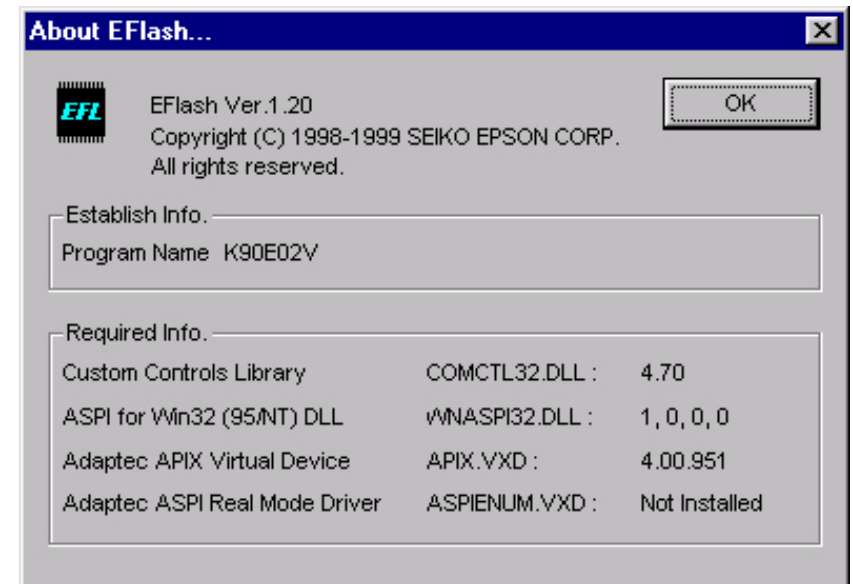
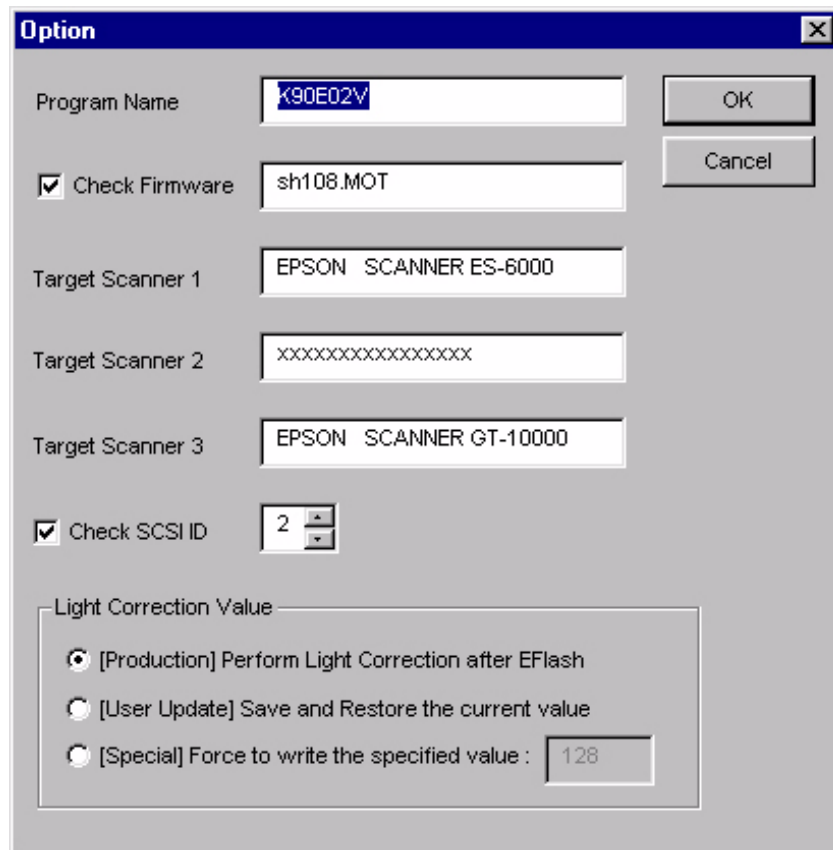

Figure 5-4. Firmware Update Requirements and Environment
Figure 5-5. Option Window
4. Click "About" button to display information on the program and the required environment as shown in Figure 5-4.
5. Double-click anywhere in the above screen other than "OK" button to display "Option" screen (shown in Figure 5-5 on the following page), and select light correction value setting for the firmware update at "Light Correction Value". If the light correction is necessary after updating the firmware, select "[Production] Perform Light Correction after EFlash". If firmware update only is desired, select "[User Update] Save and Restore the current value". To specify the light value, select "[Special] Force to write the specified value" and enter the light value.
6. Click "OK" button in Figure 5-5 to go back to Figure 5-4.
7. Click "OK" button in Figure 5-4 to go back to Figure 5-3.
3). When the Flash Reservation is complete, "REBOOT SCANNER!" message box will appear (Figure 5-5).